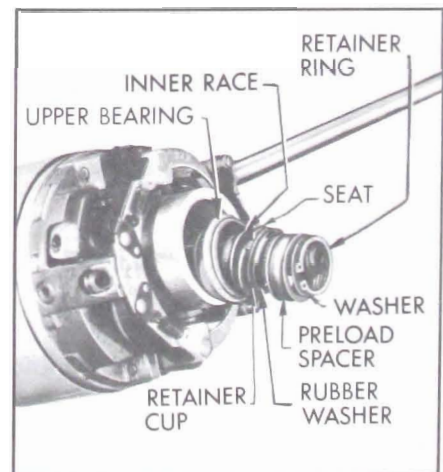

Figure 8-82—Removing Bearing Preload Parts
7. Remove washer, bearing preload spacer, rubber washer, retainer cup, seat, bearing inner race and upper bearing. See Figure 8.82. Discard preload spacer.
11. Place the upper steering shaft bearing, bearing inner race, seat, retainer cup (lip side up), rubber washer, new bearing preload spacer, washer and retainer ring on upper steering shaft. See Figure 8-82.